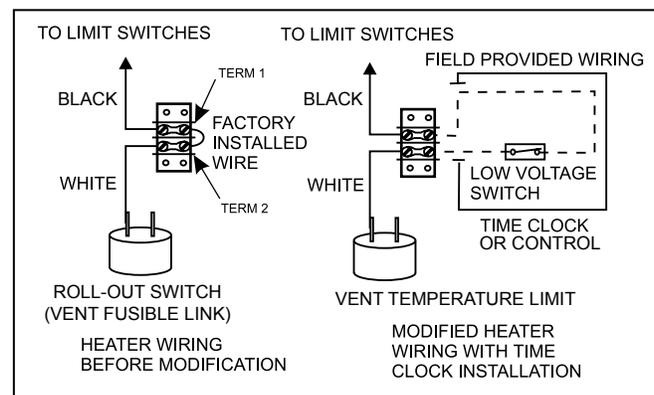

Figure 16. Time Clock Wiring or Control Connection
To install a time clock auxiliary switch into the heater wires (see Figure 16):
2. Remove the factory installed wire between terminals 1 and 2 on the terminal strip (see Figure 16).
3. Connect the wires from the time clock auxiliary switch to the two (2) terminals. Use 14 AWG (2,5 mm2) stranded copper wire with a temperature rating of 105°C (221°F) or greater.